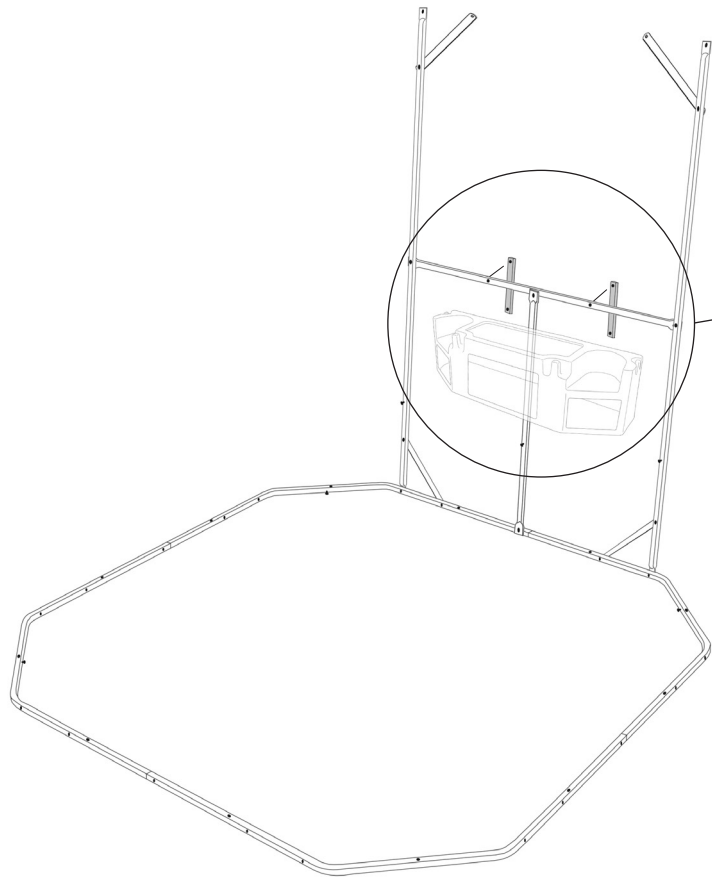

Figure 20.1
STEP 12: Locate the (16) BOLT COVERS. Standing inside the frame of the blind, look at the bottom of the ROOF PLATE. Attach the (16) BOLT COVERS to the bottom of the (16) 3/4" BOLTS installed in previous Step 11.
STEP 13: The frame assembly is now complete for your Redneck Soft Side Blind. Locate the (2) ACCESSORY BRACKETS "I". These optional parts are to be used in conjunction with the Redneck Gear Console in installation on your Soft Side Blind. If you are not installing a Gear Console, skip Step 13 & proceed to Step 14.
Installing the (2) ACCESSORY BRACKETS "I". With (2) 1-1/4" BOLTS & (2) WING NUTS, attach the (2) ACCESSORY BRACKETS "I" to (1) HORIZONTAL WINDOW BRACE "E" , as illustrated in Figure 20.1 & Figure 20.2.
NOTE: The (2) ACCESSORY BRACKETS "I" will be fastened to the outside of the HORIZONTAL WINDOW BRACE "E" , on what would be the exterior of the frame, as illustrated in Figure 20.1 & Figure 20.2.